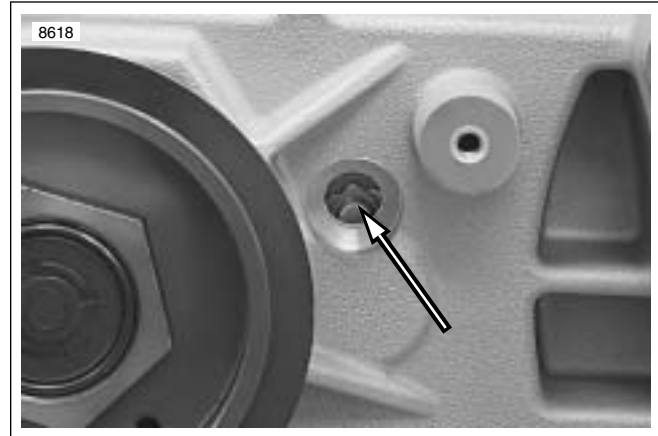

Figure 6-47. Shifter Drum Neutral Detent
9. See Figure 6-47. Place transmission in neutral. Remove neutral switch to ensure shifter drum detent is visible indicating transmission is in correct location.